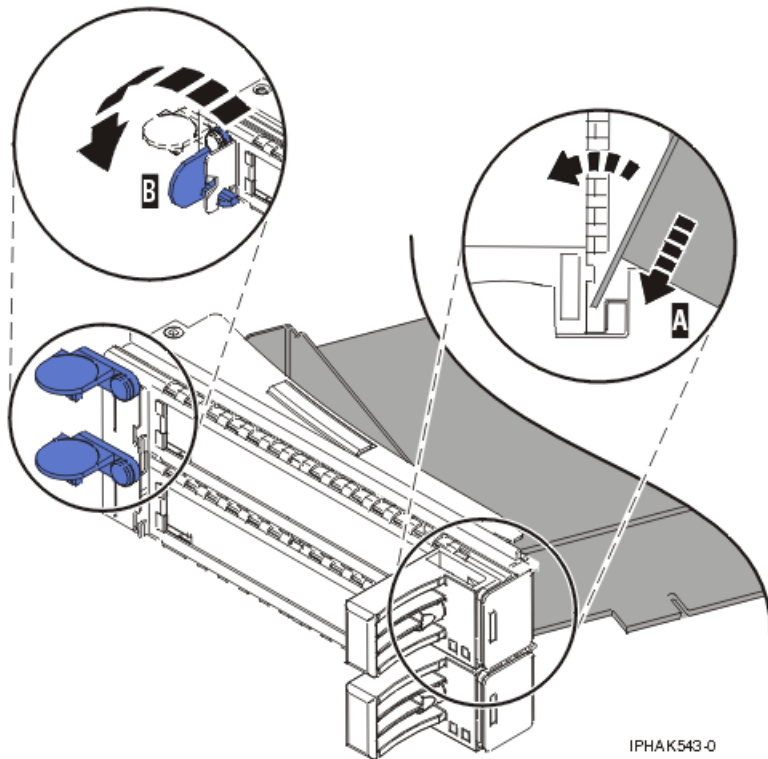

Figure 48. Adapter replaced in the PCI adapter cassette
- a. With the tailstock clamp in the open position, insert the adapter firmly into the tailstock retaining channel A. See Figure 48 on page 67.
- d. Position the adapter retainers to support the adapter, and then rotate the retainer clip **B** into the closed position. See Figure 48.